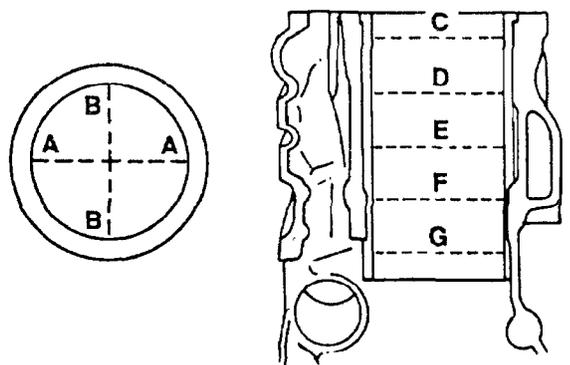

Figure 41 — Measuring Cylinder Liner Out-of-Round
- h. Measure and note the cylinder liner out-of-round using a suitable inside micrometer or bore gauge at points C, D, E, F and G (refer to Fig. 41), measure each point in two places 90° apart (A — A and B — B). The maximum allowable out-of-round is 0.08 mm (0.003 in.) at point C and 0.005 mm (0.002 in.) at the remaining points.